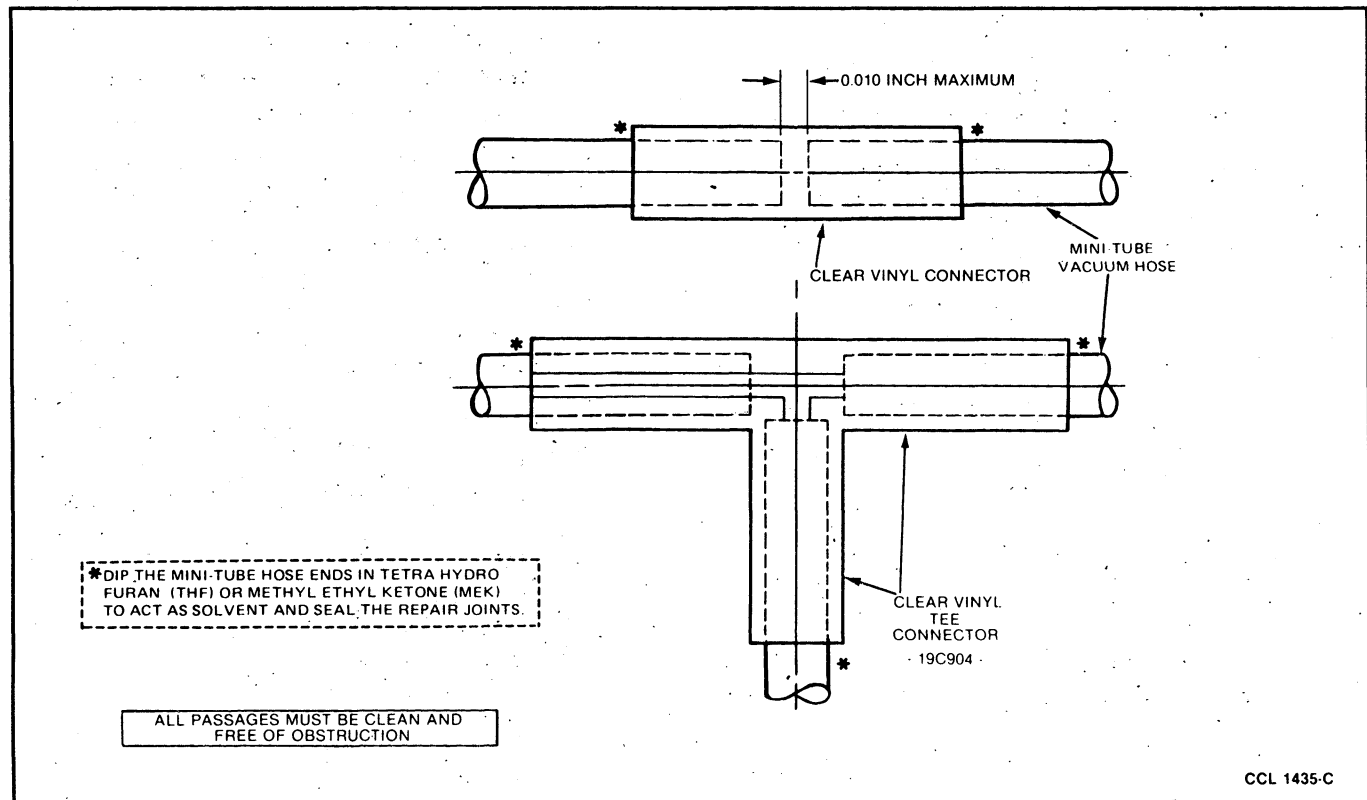

FIG. 6 Mini-Tube Vacuum Hose Service
5. Insert the ends of the mini-tube vacuum hose (Fig. 6) approximately 9mm (3/8-inch) into the ends of the standard 3mm (1/8-inch) service vacuum hose section.